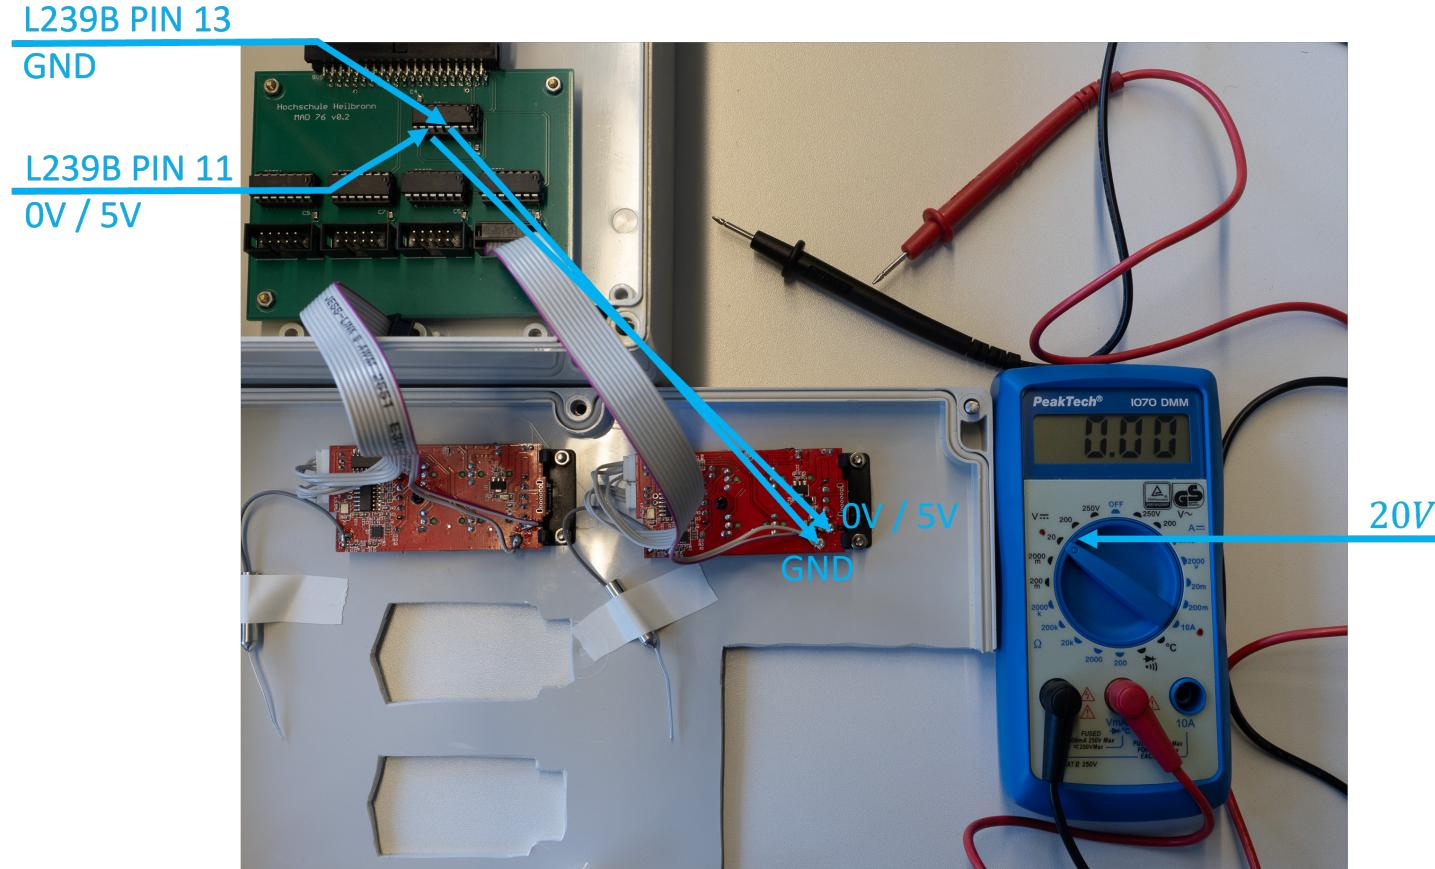

Figure 1: Exercise 2: Measure power supply voltage
C.3.3.2 Measure the voltage at the power supply of RC 1 with a multimeter (see Figure 1)